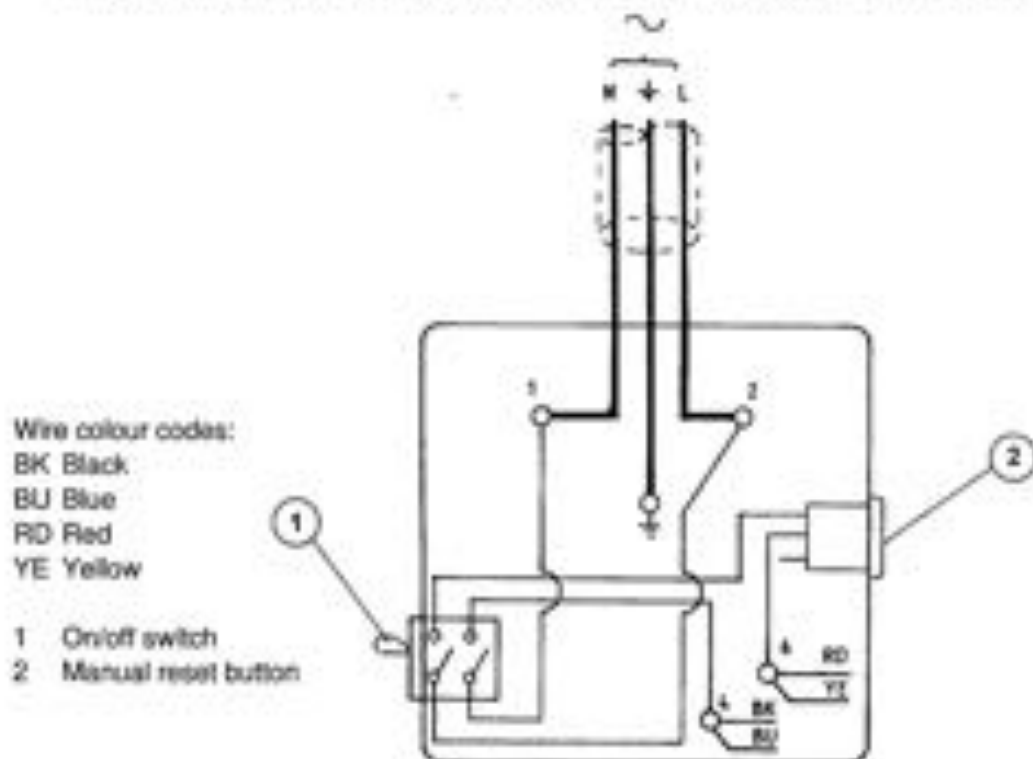

Figure 7 - Electrical supply connection, single-phase motors
If the electrical connection diagram for your pump is Figure 7, 8 or 9, use this method to connect the electrical supply cable.
4. Connect the electrical supply cable to the appropriate terminals as shown in Figures 7 to 9.